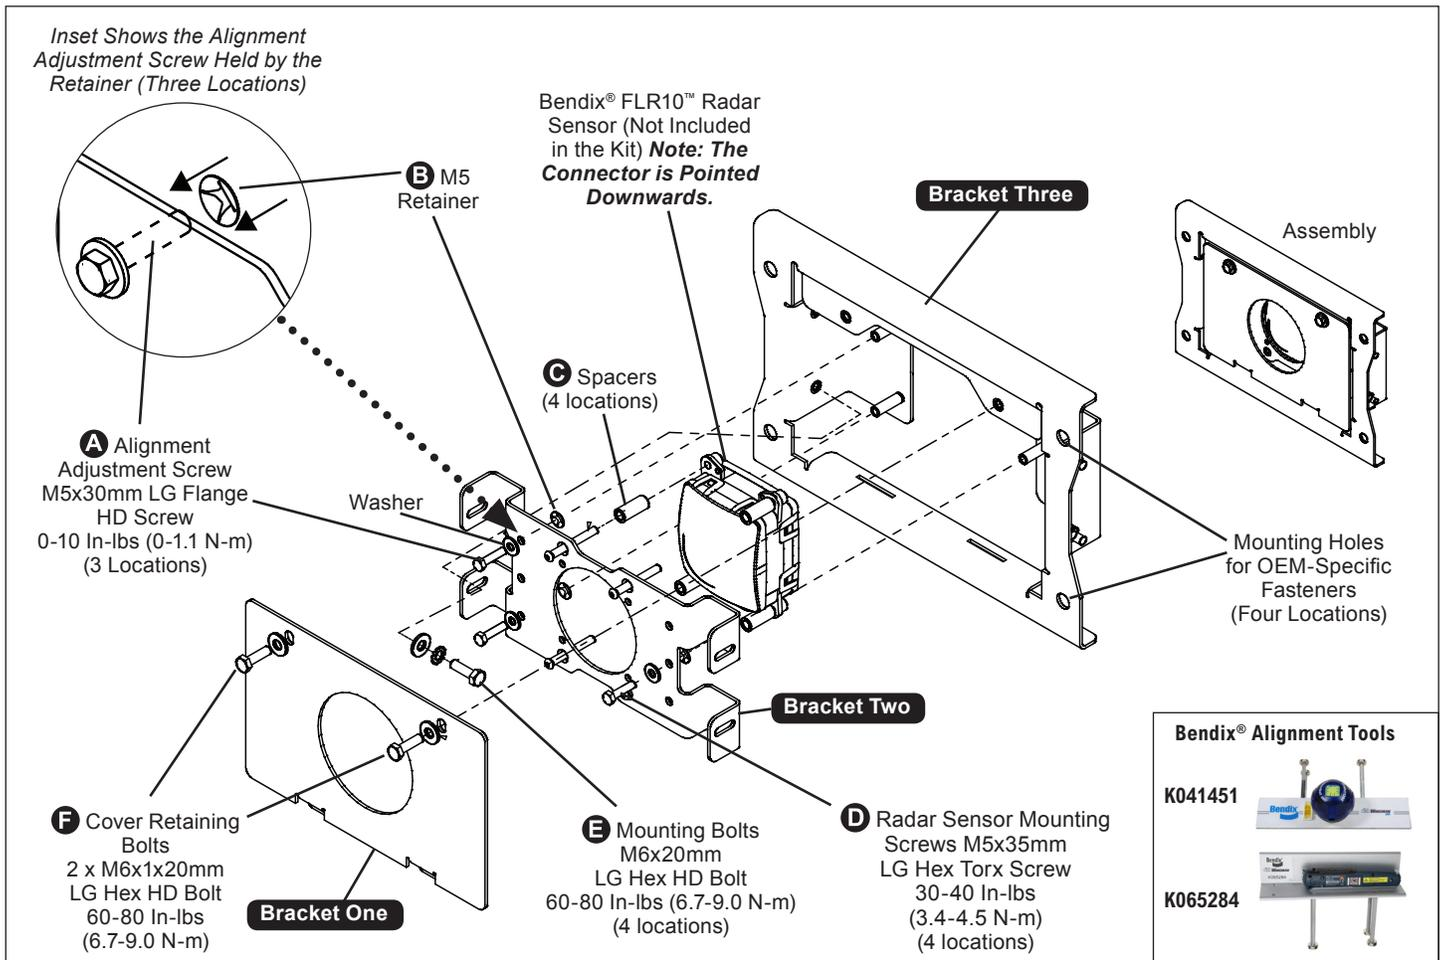

FIGURE 1 - EXPLODED AND ASSEMBLY VIEWS OF KIT COMPONENTS
Use the Assembly Torques shown in Figure 1.
- Using the four (4) spacers **C**, install the radar sensor onto Bracket Two using the four (4) Radar Sensor Mounting Screws **D** as shown in Figure 1.
- Install the three (3) Alignment Adjustment screws **A** into Bracket Two, passing them first through the flat washers shown, then onto the M5 Retainers **B**. (See *Inset Diagram*.)
- Install the Bracket Two/Bracket Three assembly on the vehicle using the four (4) OEM-specific fasteners retained in Step 1. Follow the vehicle manufacturer's torque.
- See Figure 1 for Bendix alignment tools. Align the radar laterally first; then vertically, using the Alignment Adjustment screws **A**.